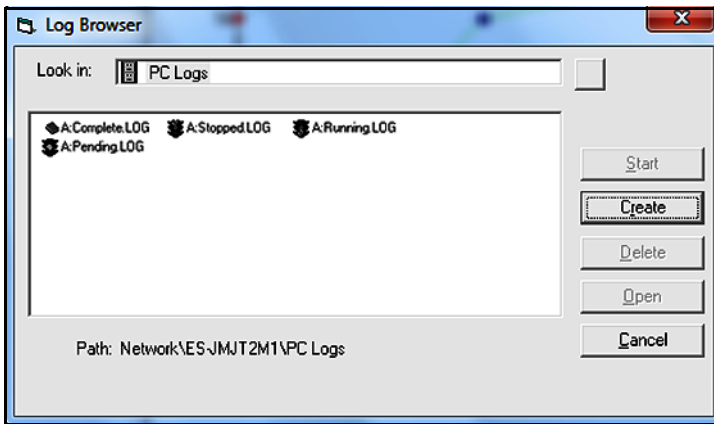

Figure 75: Selecting a Log File
2. Advance to either the “*PC Logs*” or “*Meter Logs*” dialog box as described in previous sections. Using a meter log as an example, a screen similar to that shown in *Figure 75* below opens.
Note that each of the log files in *Figure 75* above has a traffic light icon or a book icon next to its name. These icons indicate the current status of the log as follows:
- **Book** - The log has run to its specified stop time and is complete (see **A:Complete.LOG** in *Figure 75* above).
- **Red Light** - The log has not run to its specified stop time but has been manually stopped (see **A:Stopped.LOG** in *Figure 75* above).
- **Yellow Light** - The log has been set up but the specified start time has not yet been reached (see **A:Pending.LOG** in *Figure 75* above).
- **Green Light** - The log is currently running but is not yet complete (see **A:Running.LOG** in *Figure 75* above).